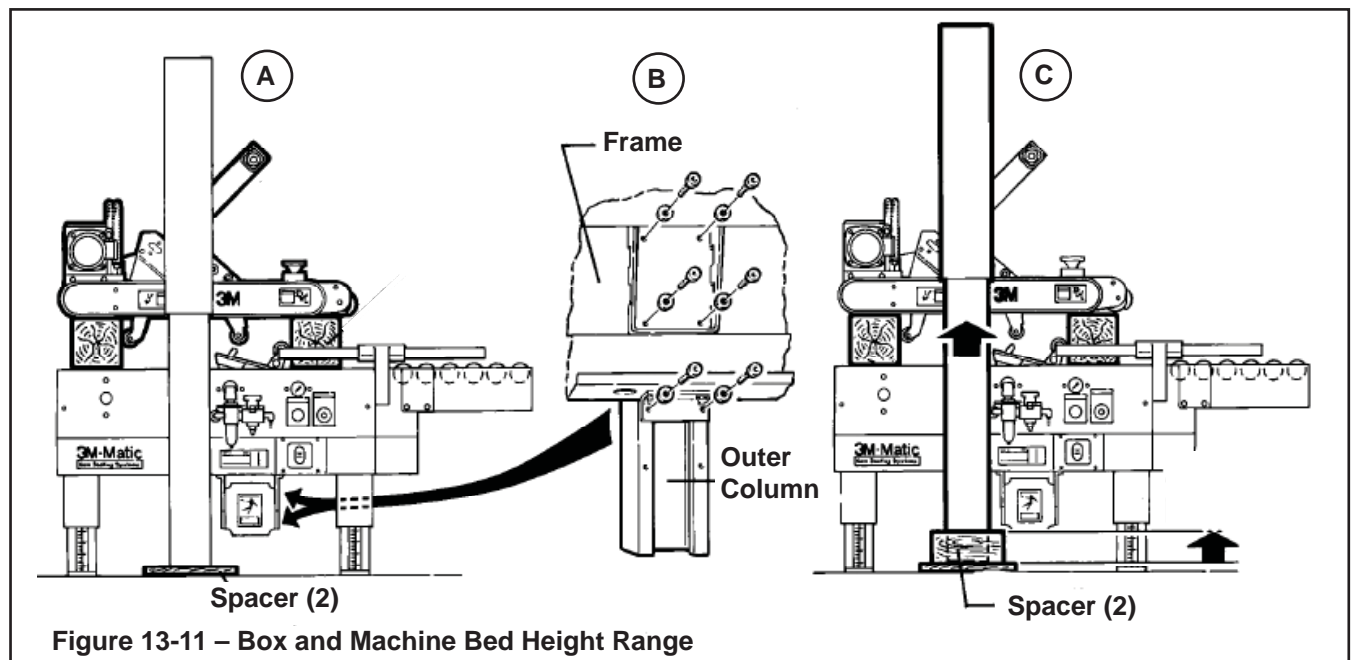

Figure 13-11 – Box and Machine Bed Height Range
**Box and Machine Bed Height Range – Refer to Figure 13-11**
**Box Height Range – (Refer to Figure 13-11 / Section 7.4 / and Specifications)**
2. Remove and relocate the stop bumper assembly to the desired position on both side columns. Be sure that the stop bumpers are reassembled as shown and secure (**See Figure 13-11 and Figure 15266**).